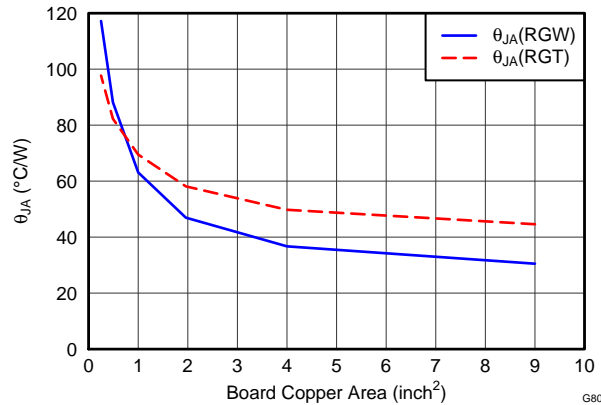

Figure 41. θ_{JA} vs Board Size
Knowing the maximum $R_{\theta_{JA}}$, the minimum amount of PCB copper area needed for appropriate heatsinking can be estimated using Figure 41.
- Added RGT package to Figure 41 19